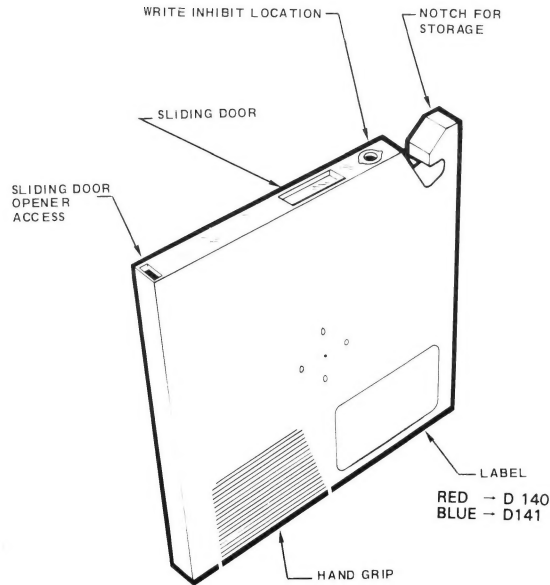

Figure 1.2
1.9 CARTRIDGE DESCRIPTION (See Figure 1.2)
Cartridge Description, see Section 1, Figure 1.2.